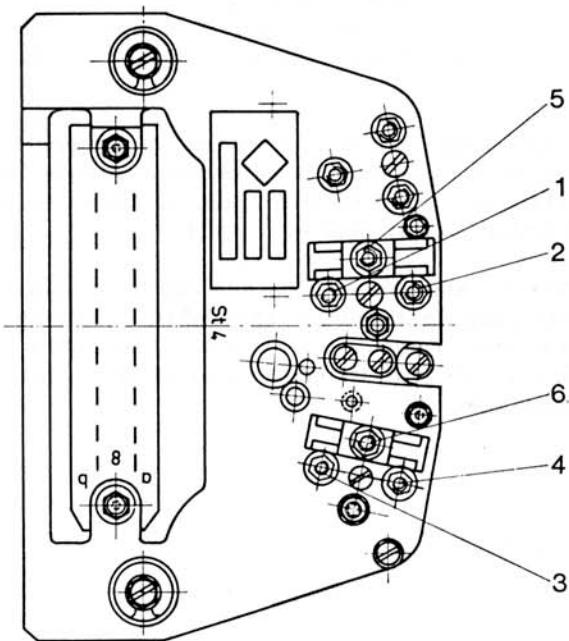

Fig. 13 Head assembly
#### 6.1. Heads (see Fig. 13)
The head can be adjusted in height and in a front to back direction of movement by means of the screws (Fig. 13, items 1 and 2, or 3 and 4) after loosening the lock nuts.